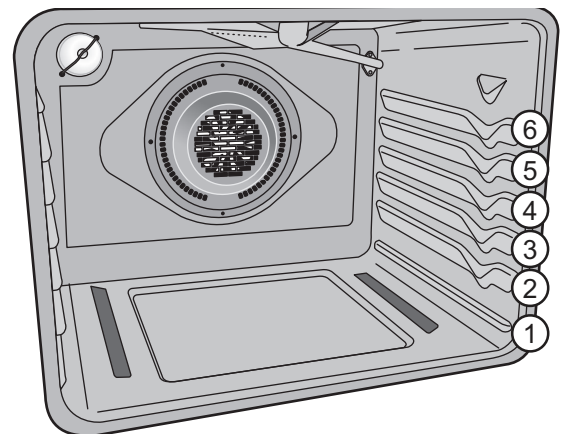

Figure 13: Rack positions for visible bake and hidden bake elements
- For best results when baking cakes using two oven racks, place racks in positions 2 and 4 (See Figure 13).